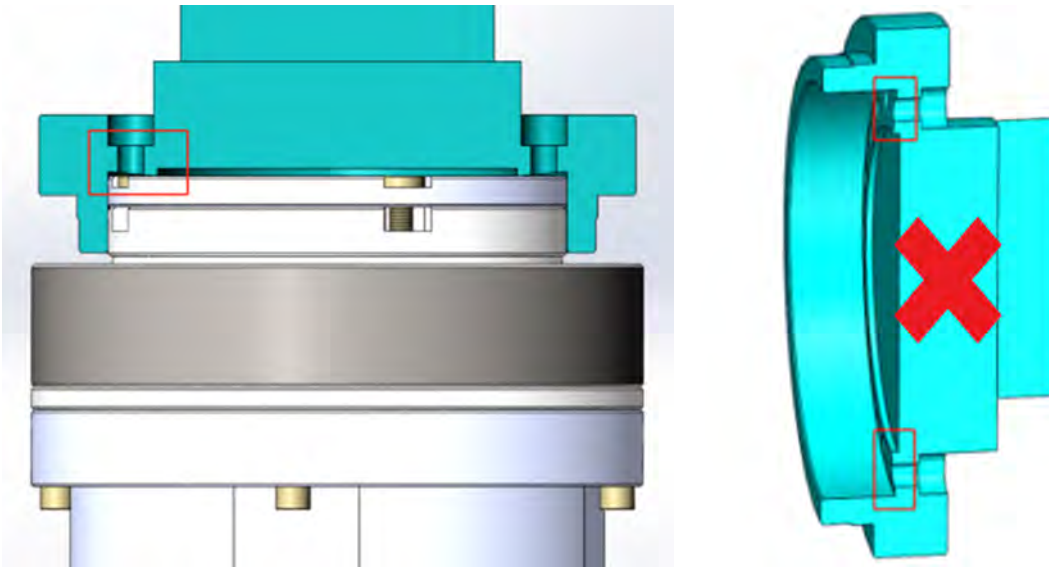

Figure 18-5 Insufficient Machining Flatness
- (4) The flatness is out of tolerance due to poor processing. As shown in Figure 18-5.